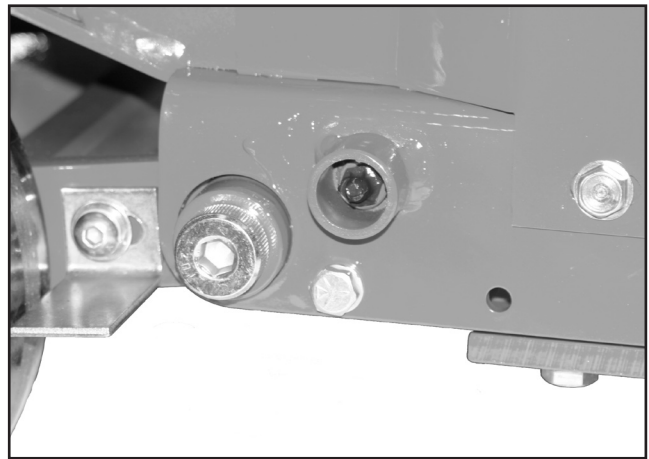

FIGURE 30
b) To lubricate the exciter bearing and bearing housing casting. The exciter utilizes a shielded type ball bearing. The Zerk® fitting provides lubrication for both the balls and self-aligning feature of the bearing unit. FIGURE 30. Grease interval will vary depending upon machine utilization rates and operating environment factors. Grease accumulation on the bearing and housing would indicate excessive lubrication.